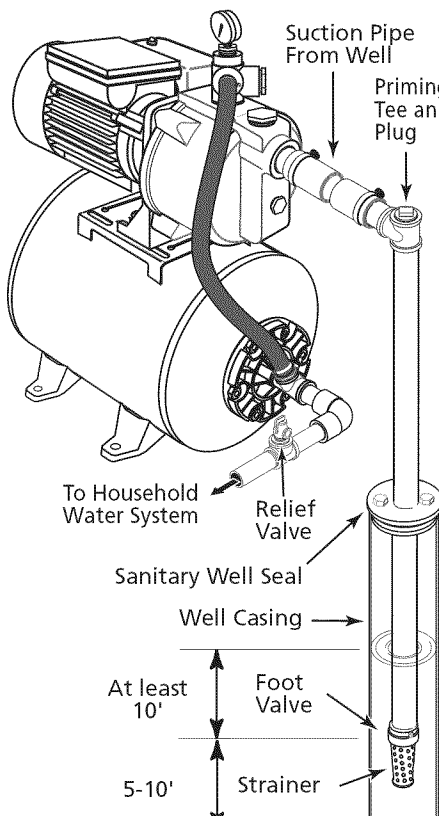

Figure 2: Cased Well Installation
Cased Well Installation, 2" or Larger Casing (Figure 2)
- Step 2. Assemble the foot valve, strainer, and well pipe (see Figure 2). Make sure that the foot valve works freely.
Step 4. Install a priming tee, priming plug, and suction pipe to the pump (see Figure 2). Connect the pipe from the well to the pump suction port, using the fewest possible fittings – especially elbows – as fittings increase friction in the pipe (however, include a foot valve – see Figure 2). The suction pipe should be at least as large as the suction port on the pump. Support the pipe so that there are no dips or sags in the pipe, so it doesn't strain the pump body, and so that it slopes slightly upward from the well to the pump (high spots can cause air pockets which can air lock the pump). Seal the suction pipe joints with Teflon™ tape or a Teflon™ based pipe joint compound. Joints must be air- and water-tight.